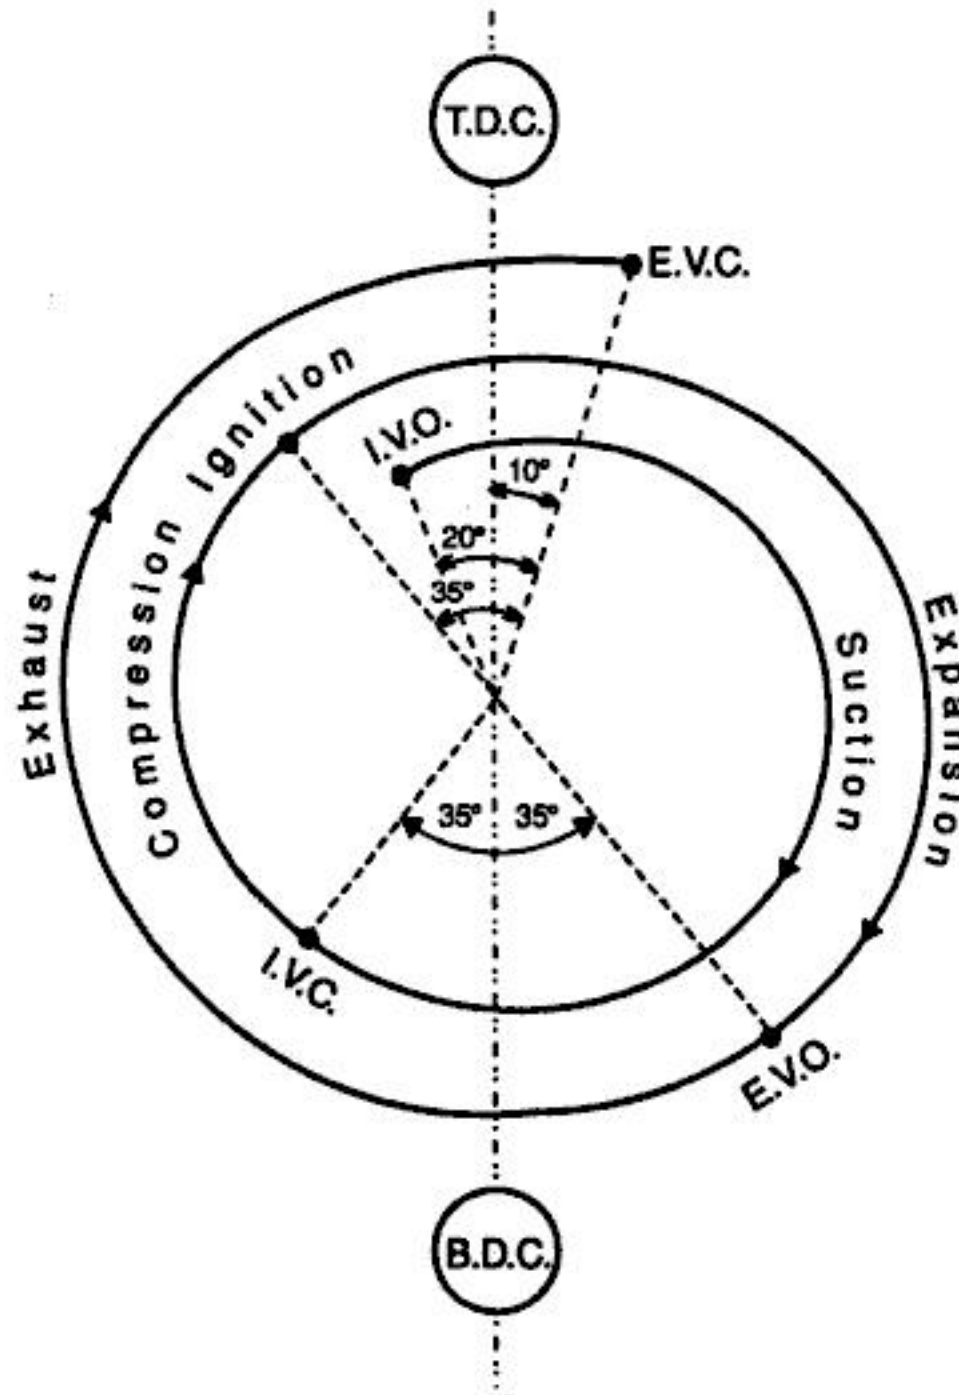

Fig. 2.41. Actual valve timing diagram (four Stroke Otto cycle engines).
*cycle* engines which is self-explanatory. In actual practice, it is difficult to open and close the valve instantaneously ; so as to get better performance of the engine the valve timings are modified. In Fig. 2.41 is shown an actual valve timing diagram. The inlet valve is opened  $10^\circ$  to  $30^\circ$  in advance of the T.D.C. position to enable the fresh charge to enter the cylinder and to help the burnt gases at the same time, to escape to the atmosphere. The suction of the mixture continues up to  $30^\circ$ - $40^\circ$  or even  $60^\circ$  after B.D.C. position. The inlet valve closes and the compression of the entrapped mixture starts.